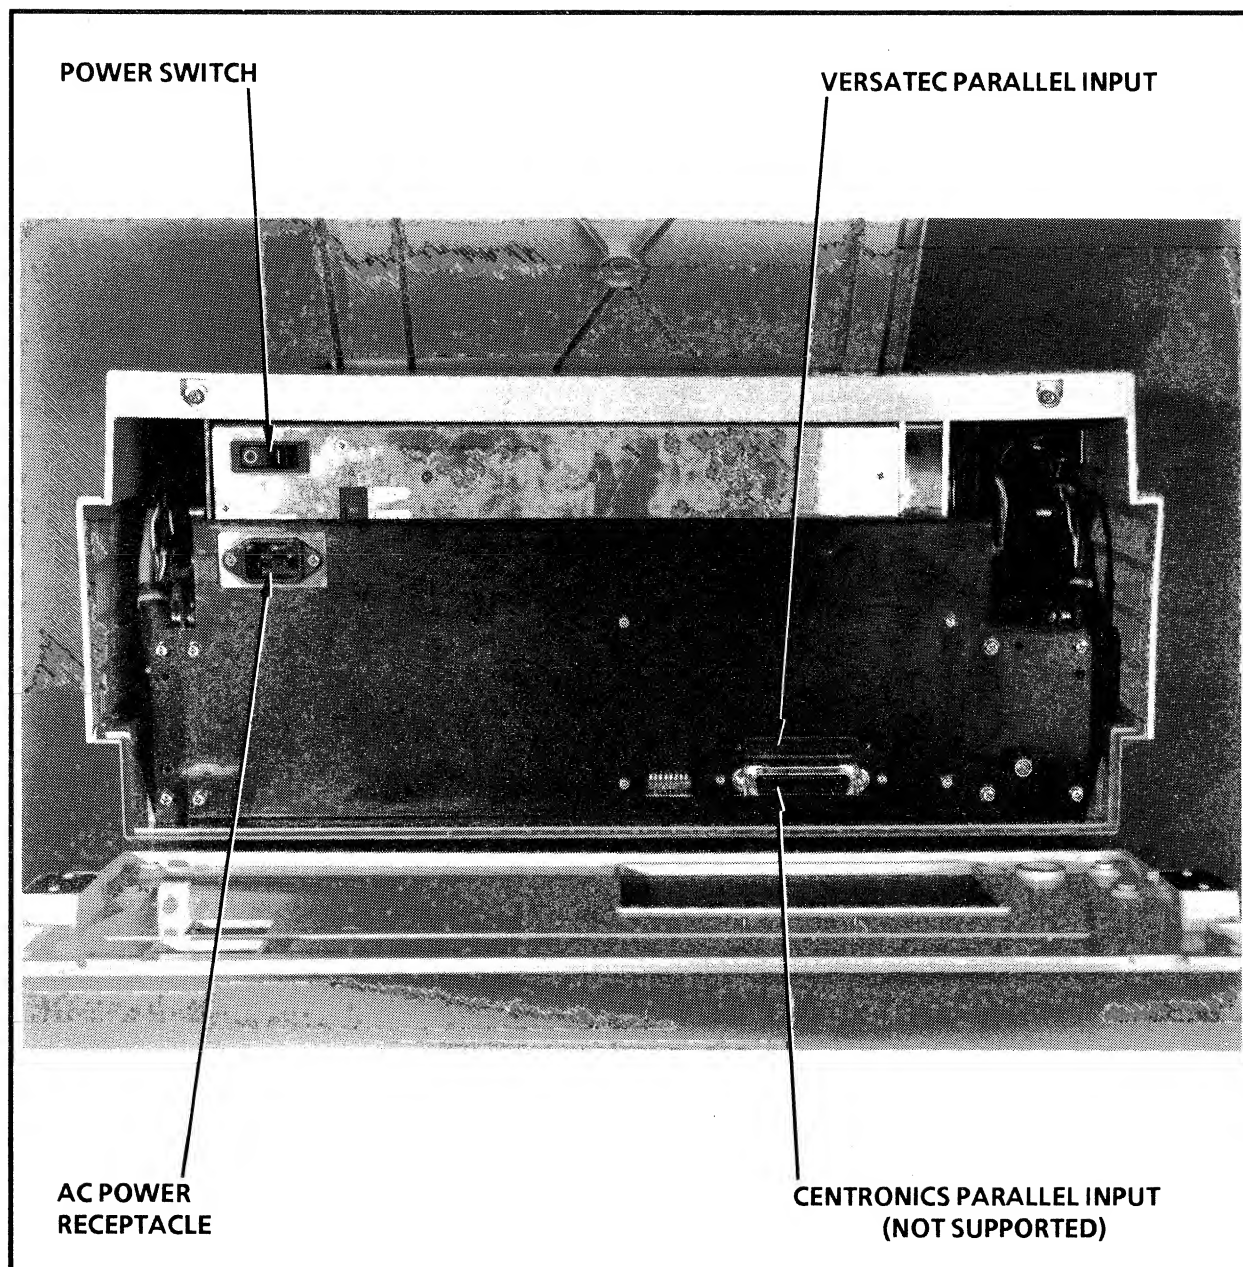

Figure 2-8. Power Entry Panel
2. Verify that the power cord is plugged into the plotter's ac receptacle, shown in Figure 2-8, and the facility ac power receptacle.